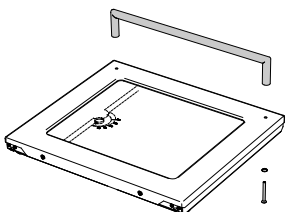

Figure 41
- Remove oven door as described and place it on a clean surface, undo the handle screws (2x) and remove the oven door handle (Figure 41).